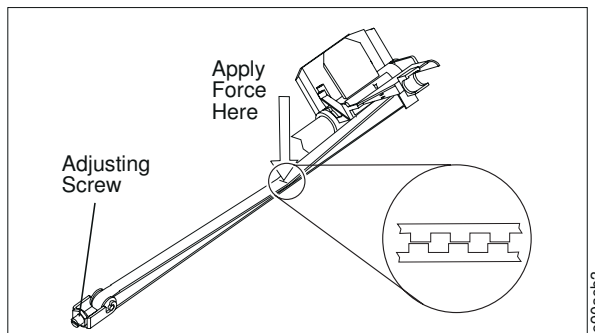

Figure 10. Carriage belt. (Viewed From Top) - Teeth must align during measurement.
4. Using a push-pull scale (such as P/N 44D9056) to check the belt tension, apply pressure to the upper half of the belt (at a point midway between the printhead and the left side frame) until it begins to touch the bottom half of the belt. To accurately measure the tension, it is critical for the raised surfaces of the teeth to align, as shown in Figure 10.